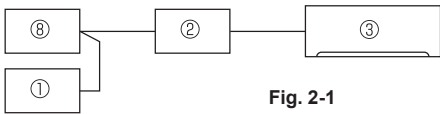

Fig. 2-1
**Connecting with M-NET system (Fig. 2-1)**